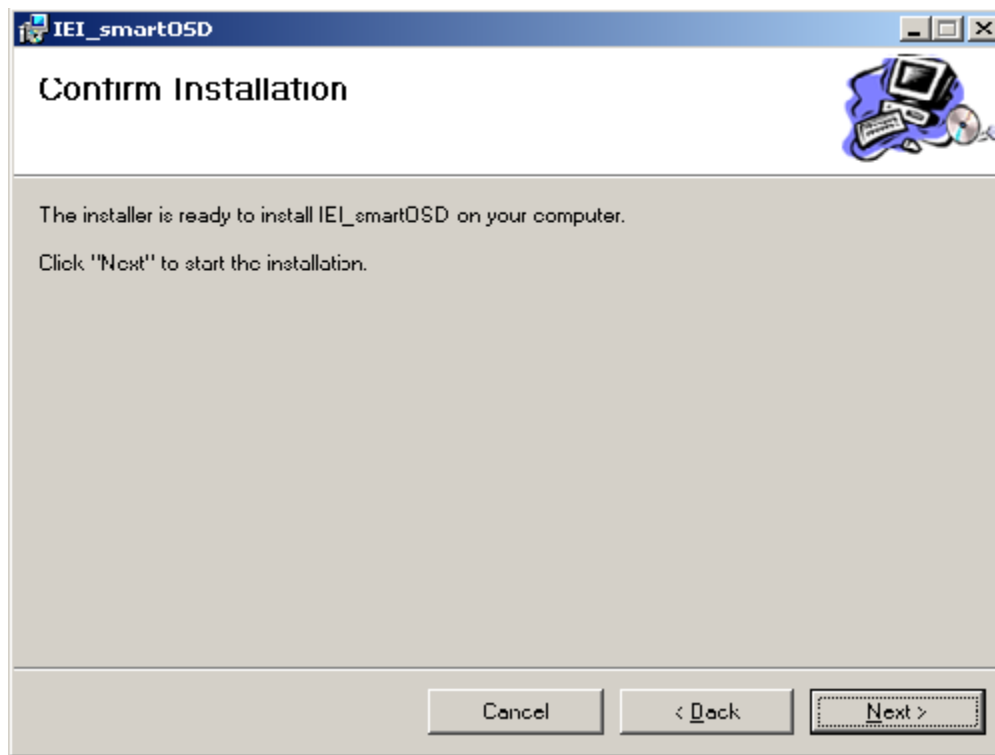

Figure 6-4: smartOSD Confirm Installation
Step 8: The screen in Figure 6-4 appears.